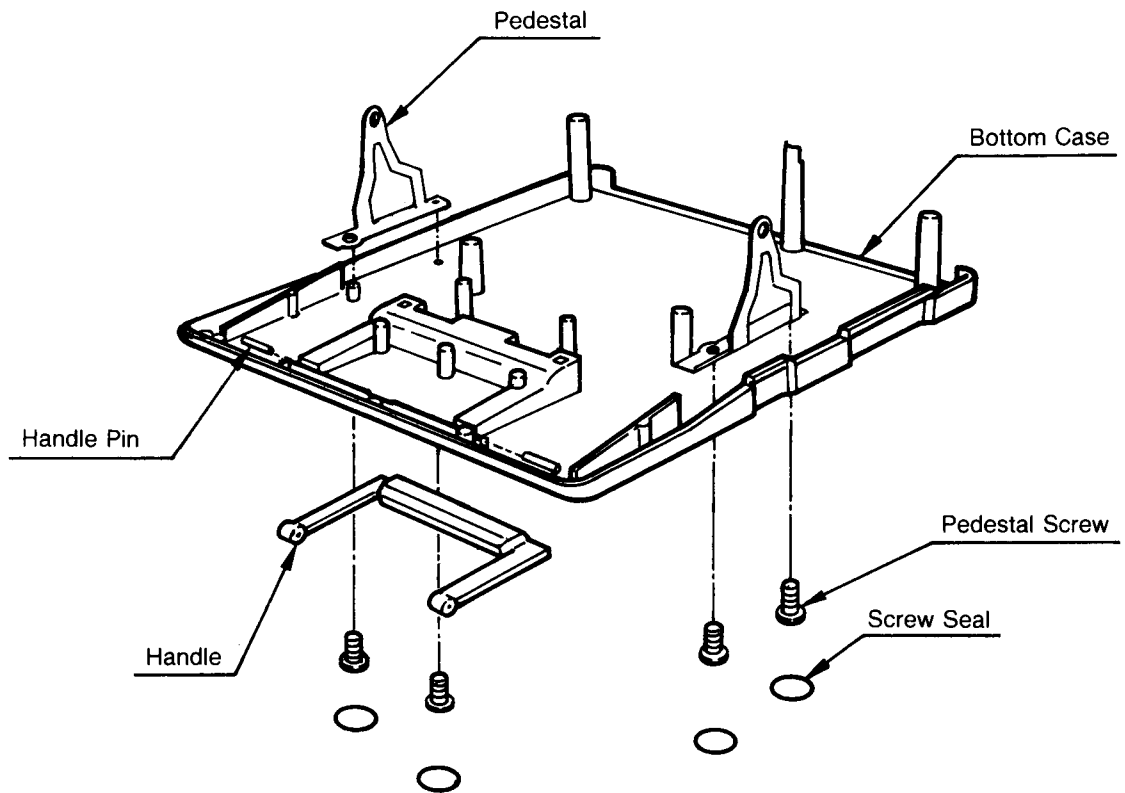

Figure 2-23. Bottom Case Dismantling
- (1) Turn over the Bottom Case and remove four screw Seals with tweezers. (Figure 2-23)
- (2) Remove four Pedestal screws and remove the Pedestals.
- (3) Pull off the Handle Pins with pliers and remove the Handle.